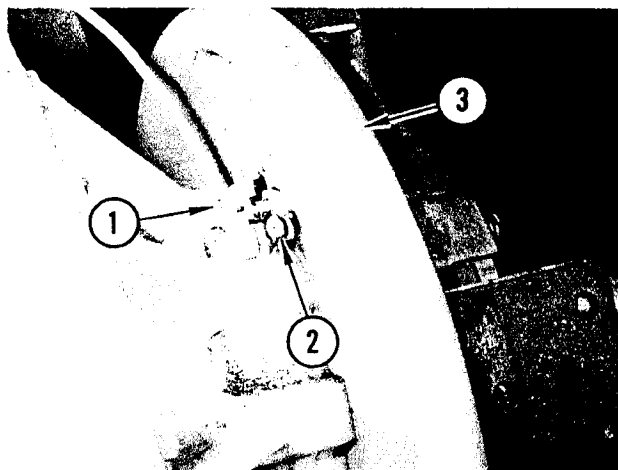

FIGURE 1. WHEEL CYLINDER REMOVAL
Refer to Figure 1. Disconnect hydraulic line (1) at wheel cylinder. Remove two cap screws and lockwashers (2) retaining